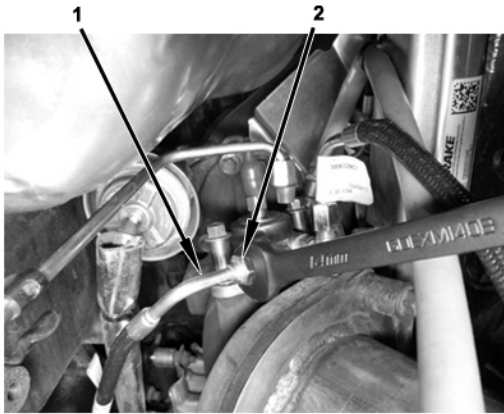

Figure 35 HCI Coolant Outlet Tube
12. Install HCI coolant outlet tube (1) to HCI, tighten HCI coolant outlet tube nut (2), and torque to 11 lb-ft (14.9 N•m) (Figure 35).